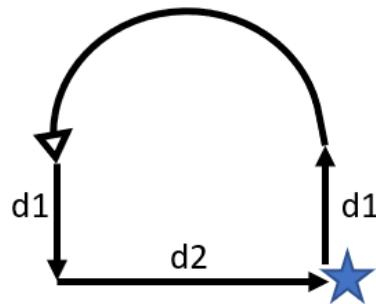

Figure 1. Driving Pattern
- a. Achieve a path on the ground which is geometrically similar to the drawing in Figure 1. Please note!: there is no feedback control in this lab so actual driving is not recommended.